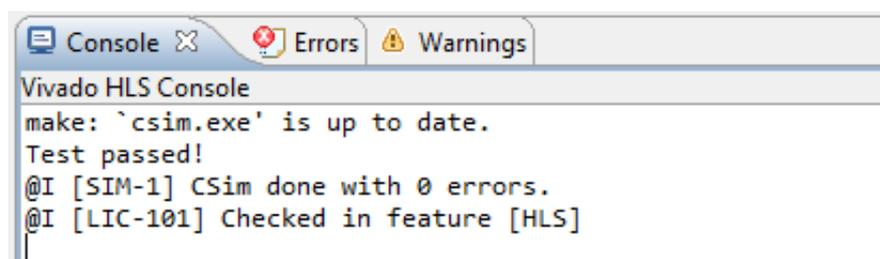

Figure 3.8: Vivado HLS console detailing successful testing
- Click the **Run C Simulation** button  in the toolbar to run a C simulation of the solution. Leave the options as default (no boxes checked, no input arguments) and click **OK**. Upon completion of the simulation, the "Test passed!" message will be displayed in the console in the bottom of the screen as in Figure 3.8.